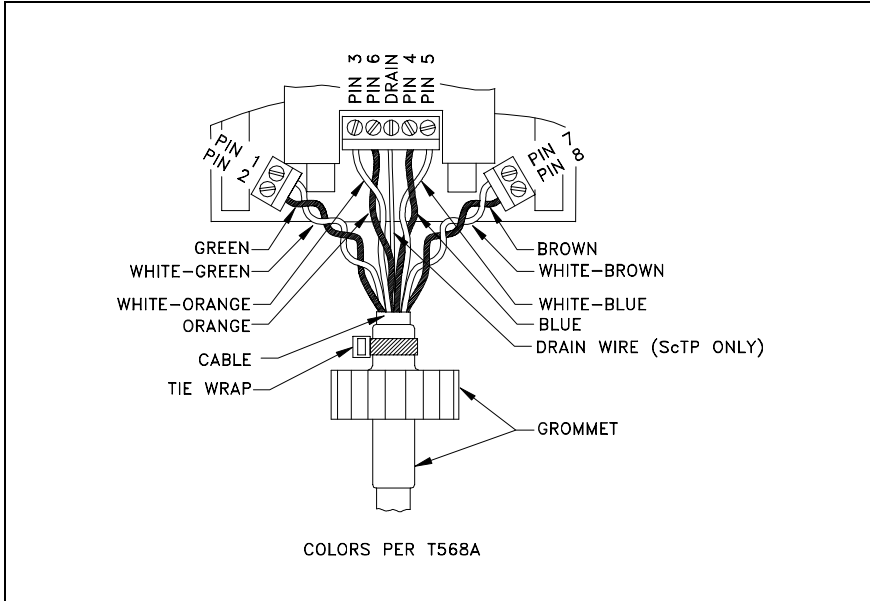

Figure D-3. UTP Cable Assembly
1. Insert **each wire** into its terminal and tighten screw until snug (see Figure D-3). If you're using ScTP, connect the drain wire to the center screw terminal of the center terminal strip.
Install new **tie wrap** centered on grommet sleeve as shown in Figure D-3. When the tie wrap is finally tightened, its ratchet box should be approximately in the plane of the wire fan.